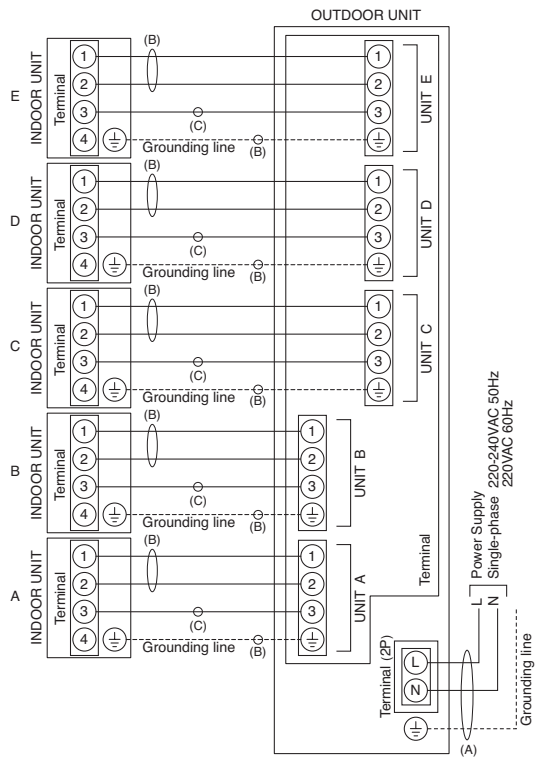

Fig. 25
Refer to the wiring system diagram (Fig. 25) for the meaning of (A), (B) and (C) in Table 6.
### 5-3. Wiring System Diagram (Fig. 25)